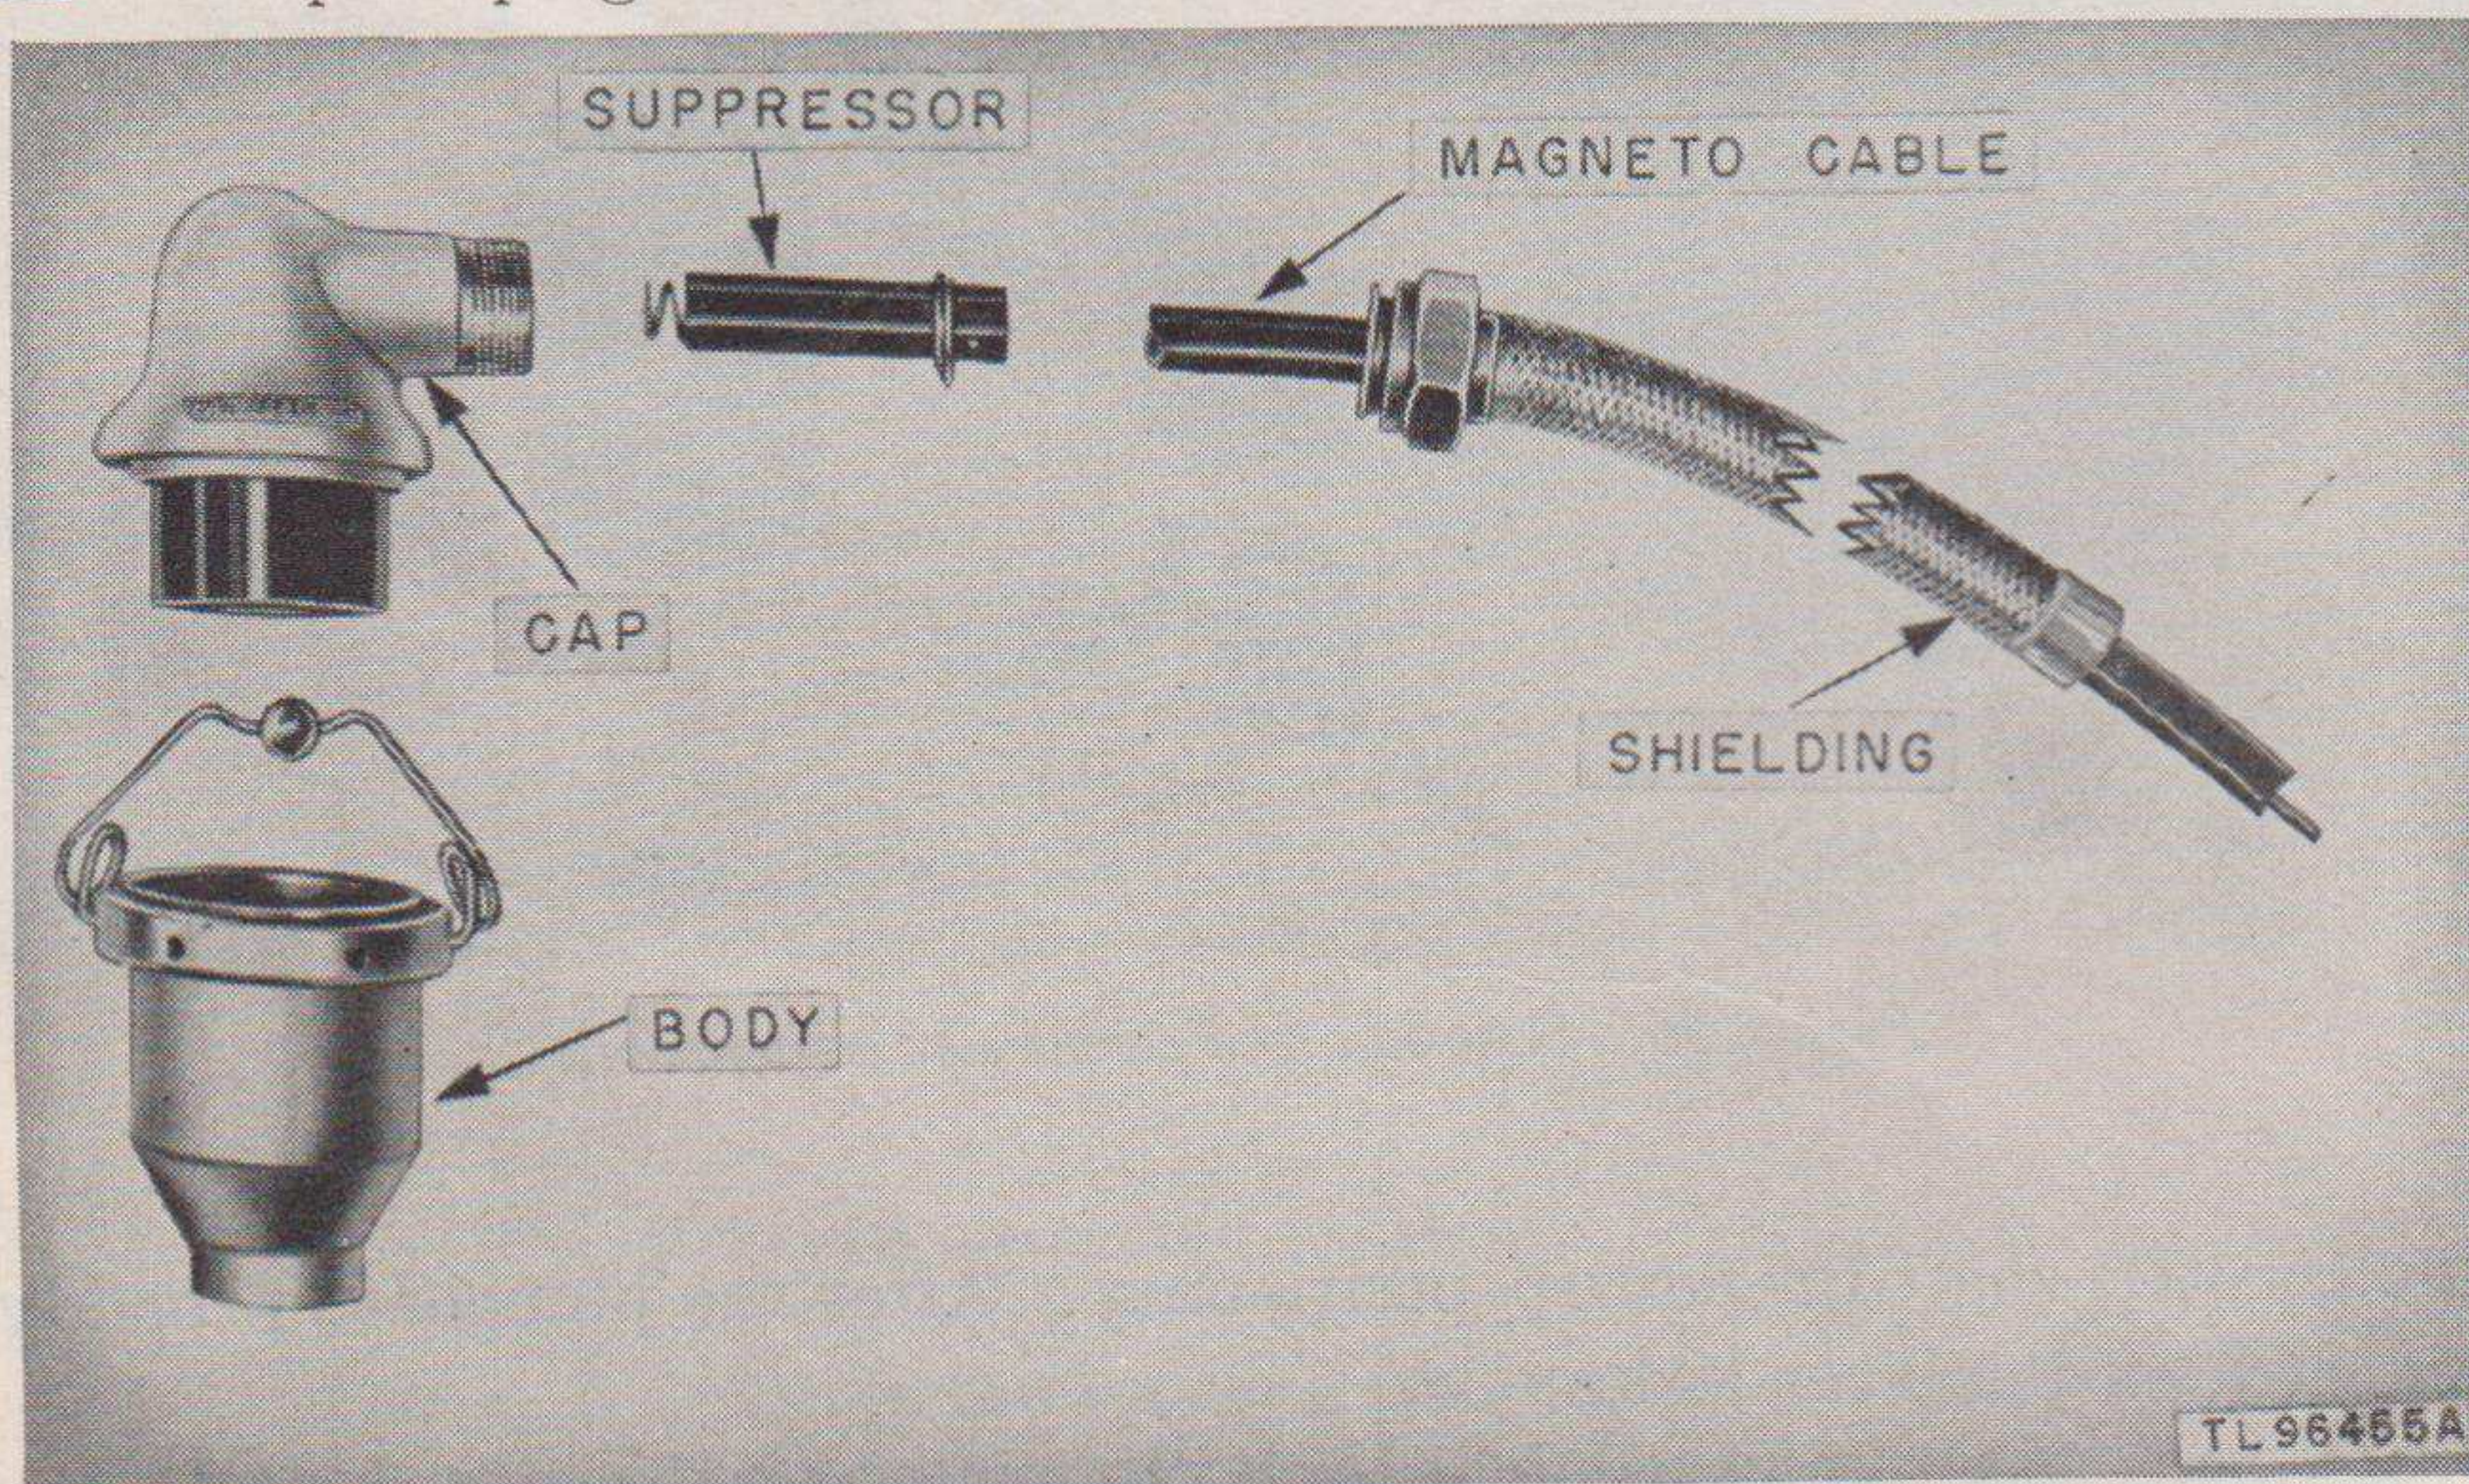

Figure 27. Spark plug shielding assembly.
- (2) *Disassembly.* Disassemble the engine in the following manner:
- (d) Unscrew ignition cable shielding nut from spark plug shield cap (fig. 27) and remove suppressor. Unclamp and remove spark plug shield cap. Unscrew spark plug from cylinder head and remove spark plug shield body. Unscrew the four roundhead screws and lockwashers and remove the cylinder head baffle plate.
a. REMOVAL (fig. 27). Pull down the spring clamp from the spark plug shield cap. Lift cap for access to spark plug. Using wrench furnished with the equipment, remove spark plug. Shield body will come off with spark plug.
- (2) Spin the engine with the starting rope and watch for sparks at plug points.
- (3) If no spark occurs at plug points, remove ignition cable from plug and check magneto. If magneto is operating properly, clean, re-gap, or replace spark plug and retest.
d. **INSTALLATION.** Place gasket over spark plug and insert spark plug through the shield body (fig. 27). Screw plug into cylinder head. Remove and discard plug terminal nut before installing spark plug shield cap on the body.